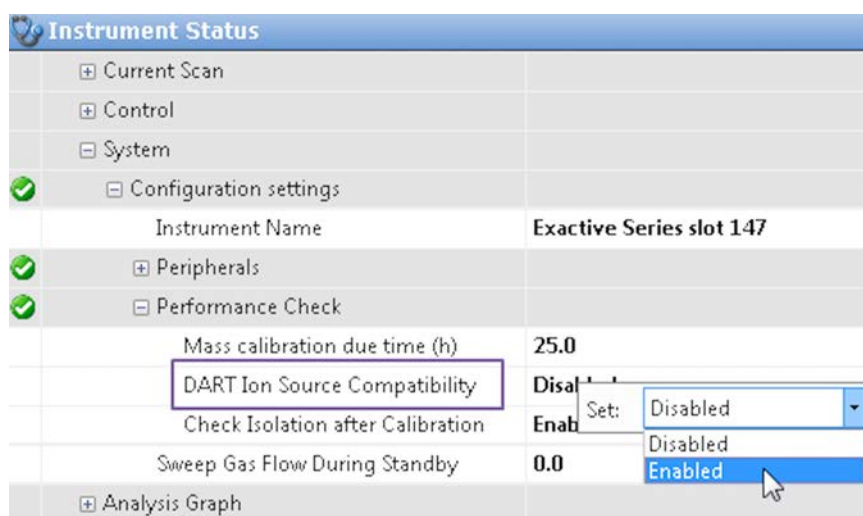

Figure 5-14. Instrument status window—DART Ion Source Compatibility
4. In the Set text field, select **Enabled**. See Figure 5-14. The shortcut menu disappears and the new value is displayed in the instrument status window.